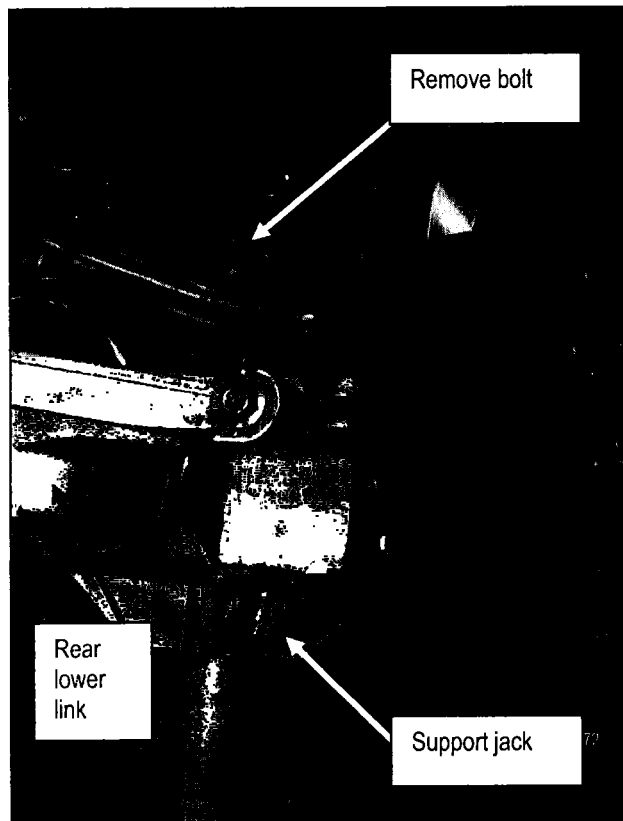

Figure 24
28. Place a support jack under the rear lower link. Then remove the bolt that holds the shock absorber to the knuckle (see Figure 24).